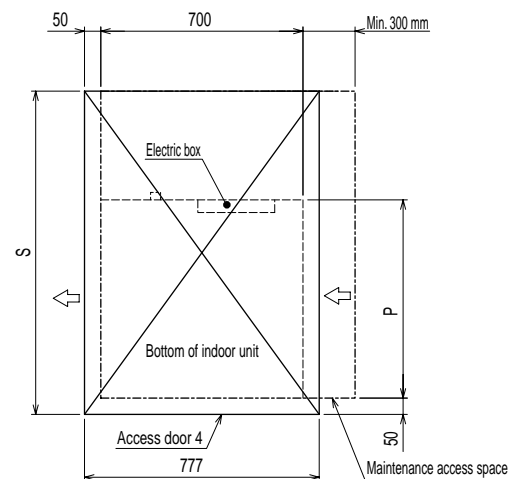

Fig. 5 (Viewed from the direction of the arrow B)
- Create access door 4 below the electric box and the unit as shown in Fig. 5.